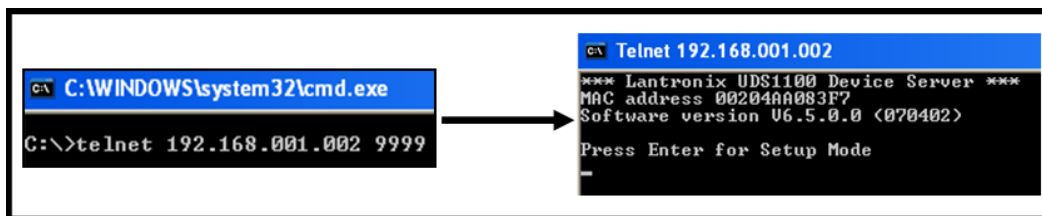

Fig. 4.15
- 16) On the DOS screen, type in **telnet 192.168.001.002 9999** and then press **Enter** (Fig. 4.15). Note that the IP address in this command line used the default IP address. **If you changed the IP Address to something different in step 9, that will be entered in place of the default IP and will be followed by 9999.** If successfully completed you will now be connected to the Lantronix Device through the network.